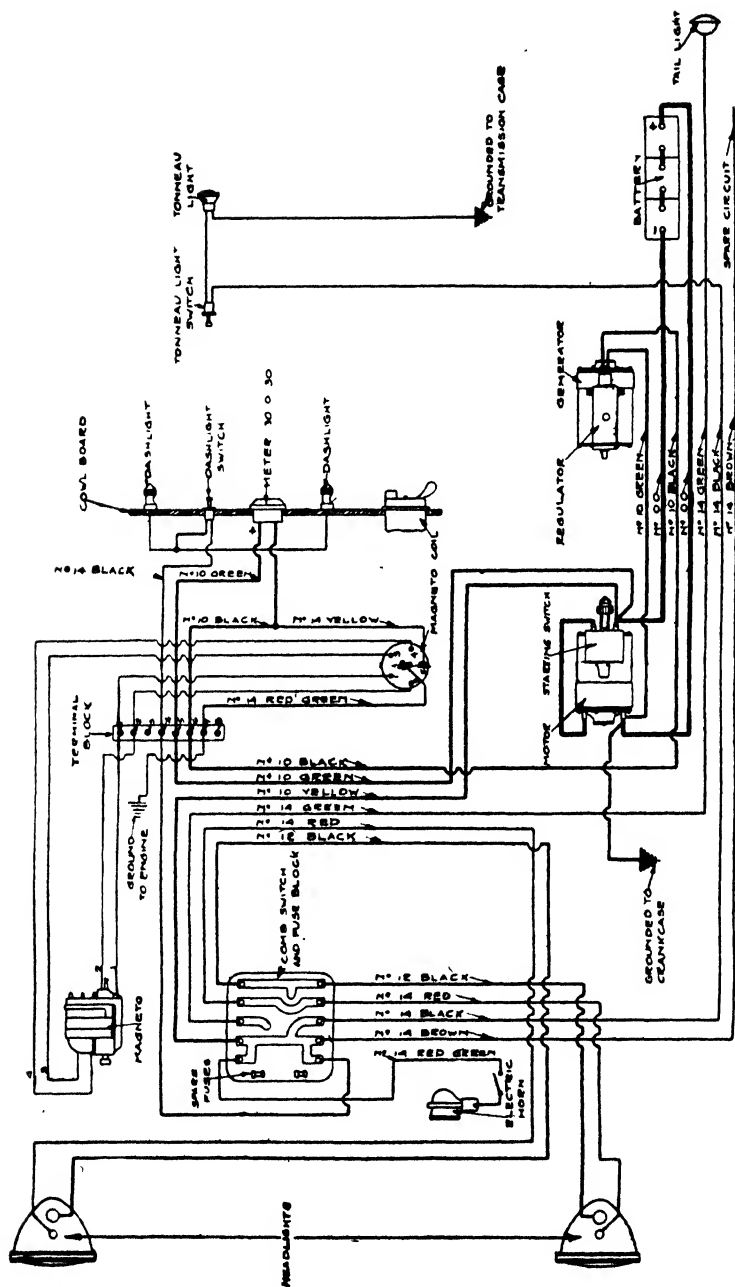

Fig. 228. Bijur System as Installed on the Winton
**Wiring Diagrams.** *Winton.* This, as shown in Fig. 228, is a single-wire system. The generator is located alongside the transmission case and is belt-driven, provision for belt adjustment being made by swinging generator to tighten belt. The numbers on the wires indicate the sizes of wire used for connecting the various apparatus. Ground connections are on engine and transmission case. In this installation the starting switch is mounted directly on the starting motor. A spare lamp circuit is provided on which a portable, trouble-hunting lamp may be connected. Fuses are provided on all lamp circuits.